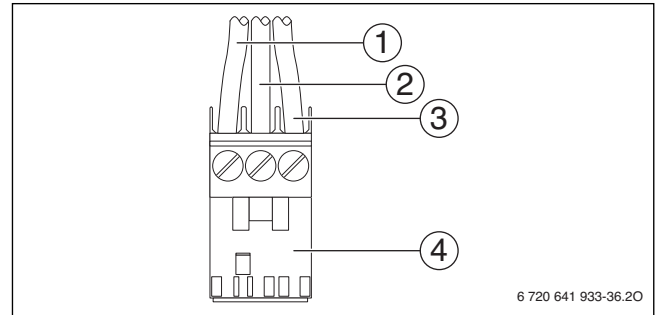

Fig. 56 Attach plug (mains power supply)
- Connect cable to **the white plug** according to Fig. 56.
- Connect the lead labeled BOILER GROUND (green) to pin 2 (center, → Fig. 56 [2]) of the white plug in the boiler junction box.